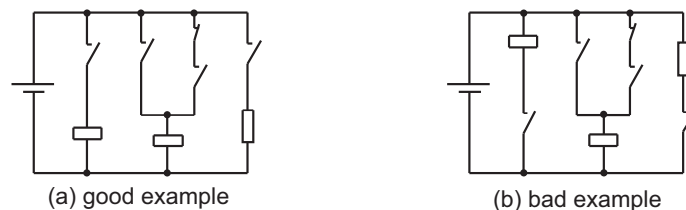

Figure 4
Multi-contacts are arranged in the same polarity of the supply power to the extent that it is possible and the passive polarity in the other polarity of the supply power, as shown in figure 4 (a). Thus, the short circuits between the contacts, due to voltage differences between the contacts, can be possibly avoided. The wiring as shown in figure 4 (b) can be avoided.
1) Generally the gap between the contacts are small. The reason can probably be that the electrical arc between the contacts results in the short circuit. Please do not adopt the circuit shown in figure 4(b). The circuit shown in figure 3(a) is suggested to use and the certain interval can be set in the operation between Con1 and Con2.